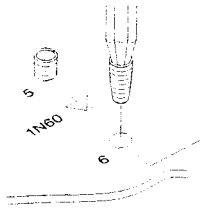

Figure 3
- From the topside of the cardboard panel, install 15 spring terminals into the 15 large, numbered holes. The smaller end of the spring should be at the bottom. To make installation easier, use the pointed end of pencil or ballpoint pen to push the spring through the holes then twist them slightly. (See Figure 3.)